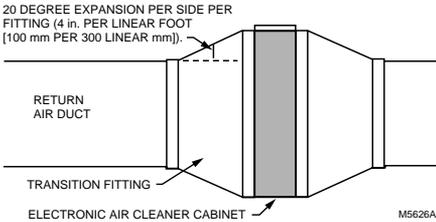

Fig. 2. Change duct size gradually to minimize turbulence.
Transitions are needed when the duct is a different size than the air cleaner cabinet. Gradual transitions reduce air turbulence and increase efficiency. Limit expansion to no more than 20 degrees (about 4 in. per running foot [100 mm per 300 linear mm]) on each side of a transition fitting. See Fig. 2.
- Install a transition if the furnace and air cleaner openings are different sizes. See Fig. 2.
- Install a transition if the opening in the air cleaner cabinet and the duct are different sizes. See Fig. 2.